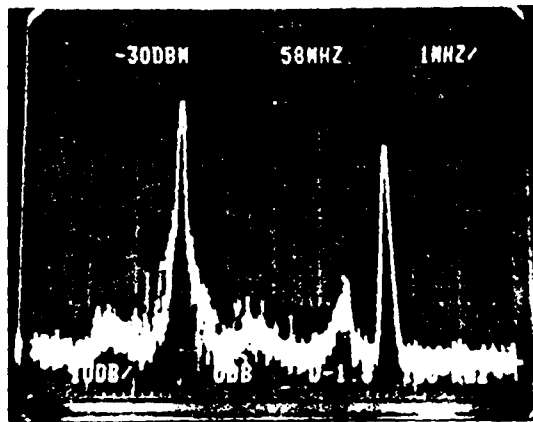

Fig 5 Spectrum analysis shows output signal on channel 3 with video carrier on left and audio on right. The S/N of 50 dB is excellent.
**Evaluation.** Lab tests usually involve oscilloscope and voltmeter readings. But here you have r-f carriers in addition to baseband video and audio outputs, and that requires spectrum analyzers. Furthermore, the usual 50-ohm impedance analyzer input must be matched to the 75-ohm output of the discplayer, and that results in an addition of 5.72 dB. Nonetheless, absolute levels are not nearly as important in this analysis as relative levels, so a rounded 6 dB difference in scale reading for Fig 5 really won't matter much. For instance, the video carrier reading of -45 dBm becomes -51 dBm after correction for the 75-ohm termination.